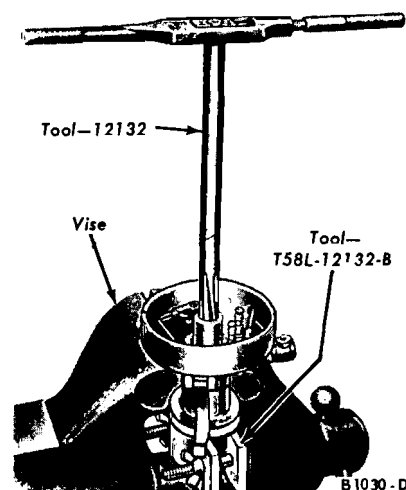

FIG. 8—Burnishing Bushing
2. Burnish the bushing to the proper size (Fig. 8).